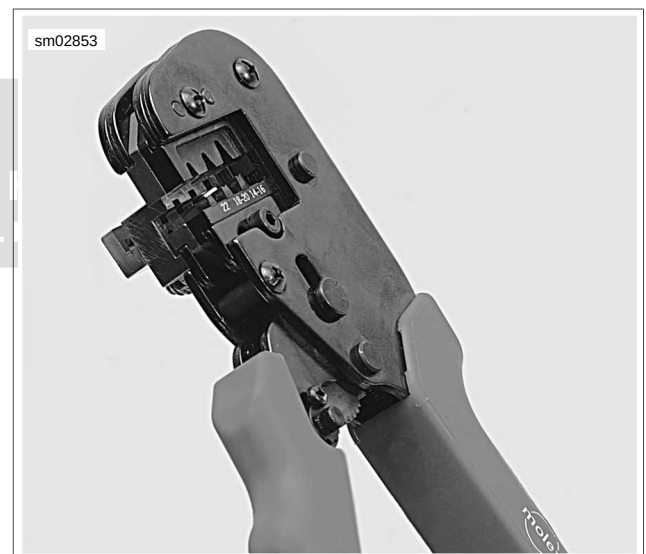

Figure A-29. Open Electrical Crimp Tool (HD-48119) at 45 Degrees
3. See Figure A-29. Hold fully open tool at approximately 45 degrees.